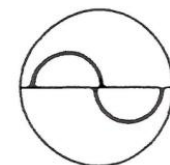

Fig. 2
4. The pressure on the eye is then increased by turning the measuring drum on the tonometer until the inner borders of the two fluorescein rings just touch each other, in other words, when they overlap with each pulsation of the eye, Fig.2. The width of the fluorescein band around the point of contact of the measuring prism should be about one tenth of the diameter of flattening. (0,3 mm).